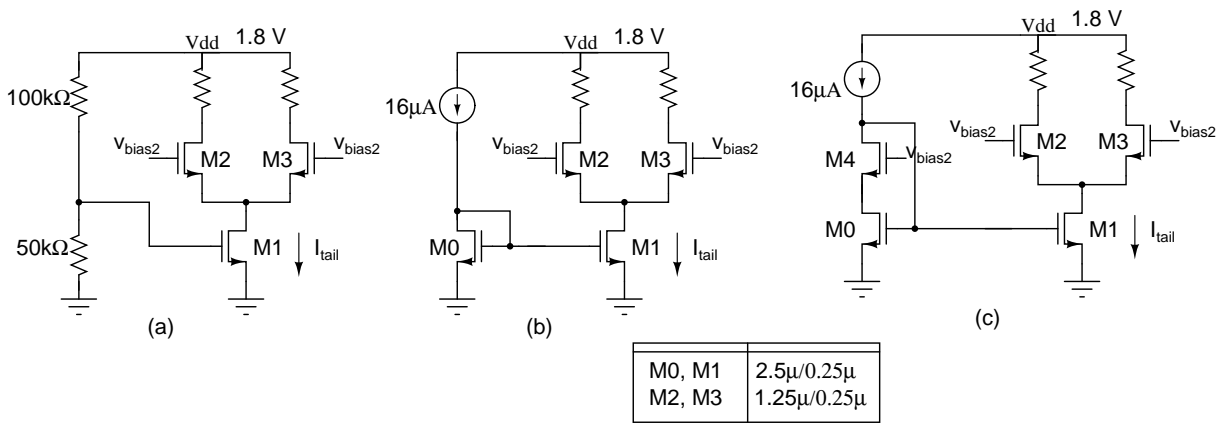

Figure 1: Biasing schemes
In this problem, we investigate the most common biasing schemes used in IC design. Unlike discrete component design, in IC design we often do not AC couple stages unless otherwise necessary and hence proper design of bias circuits is essential. Consider the biasing of a differential pair shown in figure 1. All device sizes are indicated in the figure. The differential pair is intended to be operated with all transistors in saturation in strong inversion. In other words, assume that the inputs to the differential pair are small and swing around some bias voltage v_{bias2} (or equivalently the current through the two transistors M2, M3 is approximately $\frac{I_{tail}}{2}$).
3. Now consider the biasing scheme described in figure 1(b). Here the gate voltage applied to the transistor M1 is obtained by biasing a similar transistor (M0) using a reference current source. If we assume all transistors have infinite output impedance, what is the current I_{tail} ? If instead the transistors M0 and M1 have a $g_m r_o$ of 10, and the drain of M1 is assumed to be at 550 mV, what is the value of I_{tail} ? (Hint: use small signal analysis to provide a rough estimate of the current)
5. Consider the biasing scheme in figure 1(c). Do you think the current mirrored in to the transistor M1 would be exactly the same as that pushed in to M0? Why? Here we try to further improvise the current mirrored in to M1. What do you think is the reason behind a claim that this scheme is better than the scheme shown in figure 1(b). For best results, what should the size of the device M4?